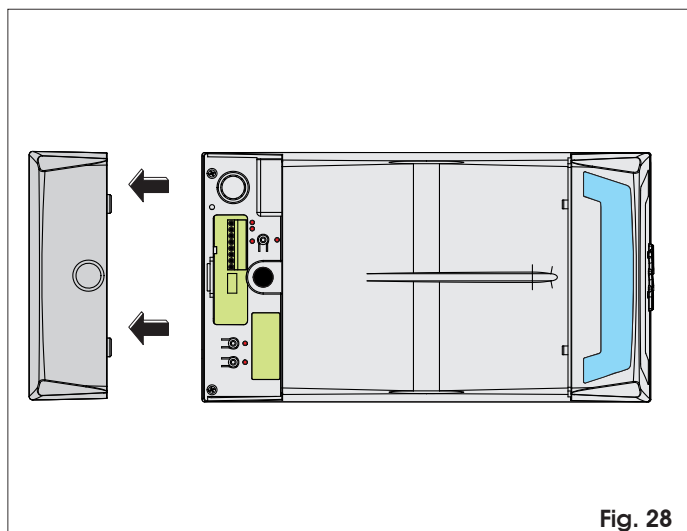

Fig. 28
**✋** The SETUP cycle is carried out with the plastic housing installed. Just remove the rear door (Fig. 28). Grip the rear door with both hands and pull gently downward. When you have finished the procedure described in this chapter, put the door back in place.